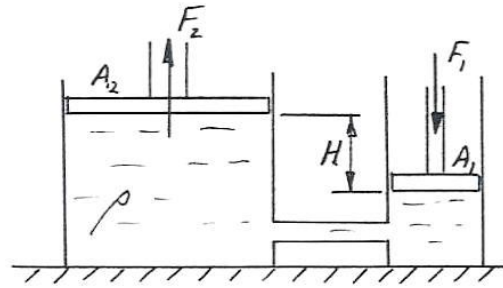

Figure P2.7
2.7 Two cylinders of cross-sectional areas A_1 and A_2 are joined by a connecting passage, as shown in Figure P2.7. A force F_1 acts on one piston, and a force F_2 acts on the other. Find F_2 in terms of F_1 , A_1 , A_2 , ρ , g and H , where ρ is the fluid density. Ignore the weights of the pistons.